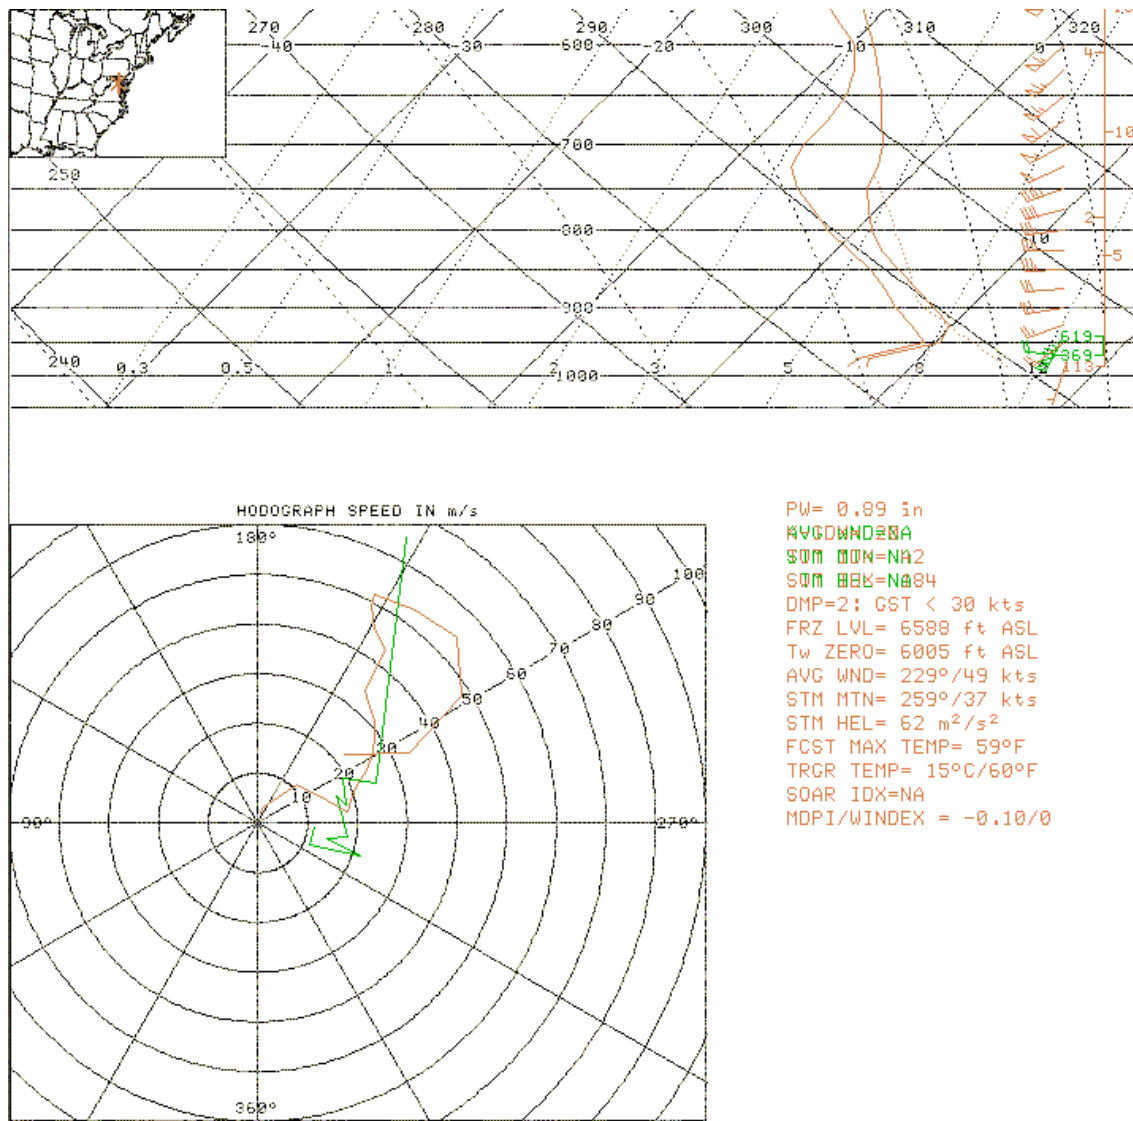

Figure 5-77. VWP hodograph (green) overlaid on Meso-Eta Hodograph (red).
2. ***The VWP can be used to create/adjust hodographs(see Fig. 5-77 on page 5-132) .***